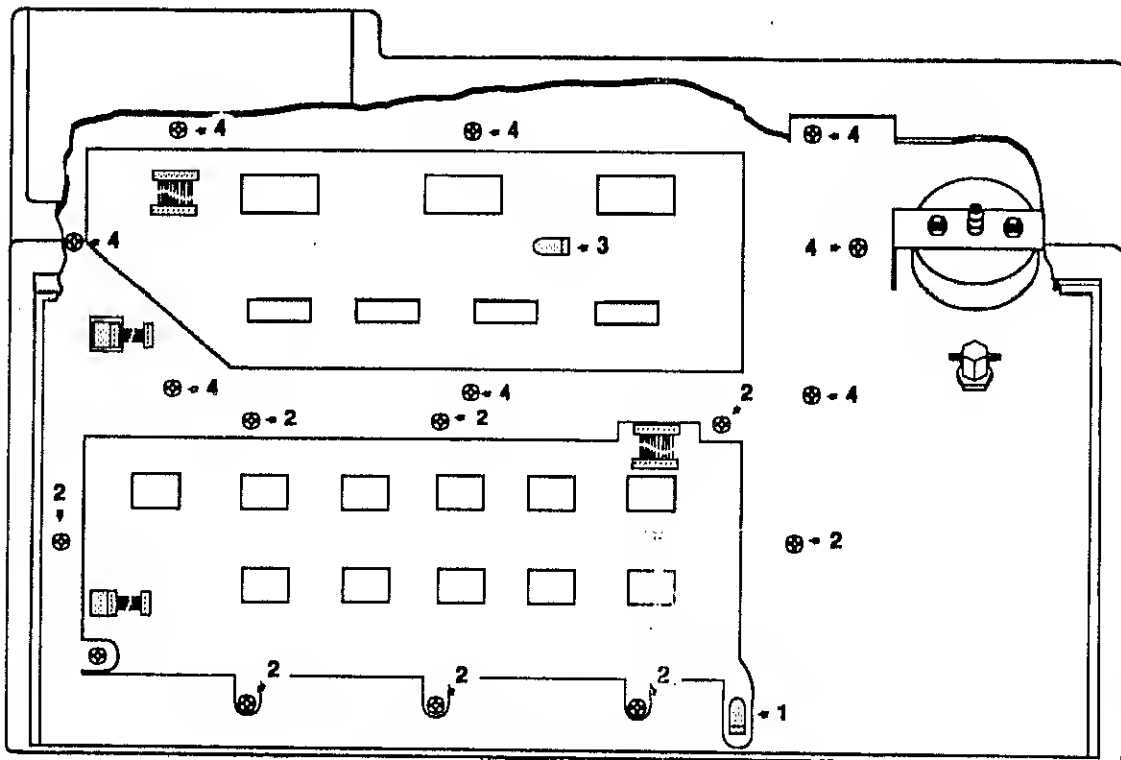

Figure 8-8
2. Remove the grounding wire (Figure 8-8, Ref. 1) from the Control Panel.
3. Remove the 8 screws from the Control Panel (Figure 8-8, Ref. 1).
2. Remove the grounding wire (Figure 8-8, Ref. 3) from the Monitor Panel.
3. Remove the 8 screws from the Monitor Panel (Figure 8-8, Ref. 4).